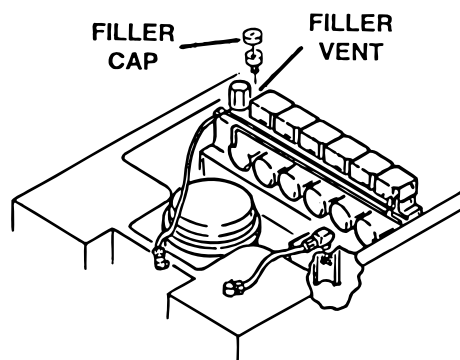

Figure 1-19.
The fluid level should be approximately 1/2" below the filler hole or gasket surface. If additional fluid is needed, remove the filler vent cap with a phillips screwdriver and add fluid through this opening using a funnel. See figure 1-19.
1. Attach the pressure gauge onto the main oil galley pictured in figure 1-19.